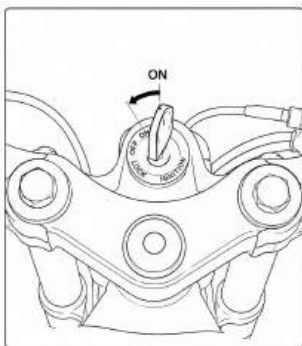

Figure 3-8
2. Turn the ignition switch to the "ON" position (see Figure 3-8).